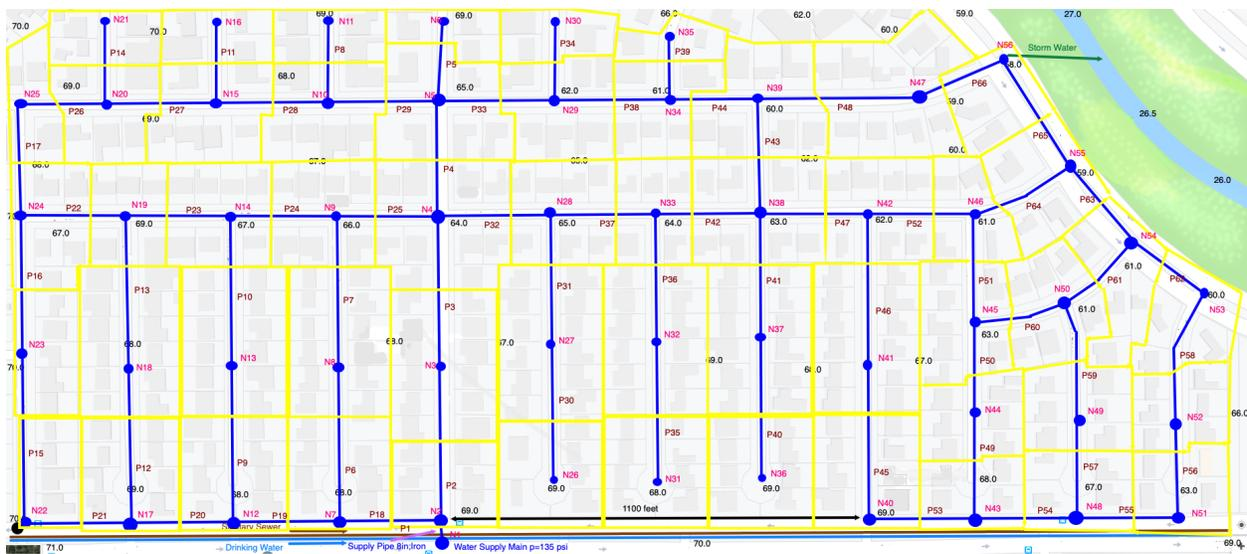

Figure 1: Hydraulic Model Network for Somewhere USA
- Figure 1 is a layout of a hydraulic network model for the Somewhere USA subdivision. The blue line segments are pipes and are labeled (P1, P2, ...). The blue circles are nodes and are labeled (N1, N2, ...). The yellow polygons represent the lots assigned to each node; for example, node N2 supplies the six (6) lots located near the node.